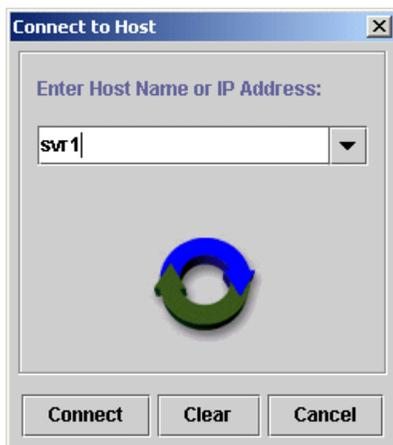

Figure B-3 FASIT MSJ - Connect to Host window
3. This is the main window in the GUI. To connect to a server agent click the **Connect** icon and the Connect to Host window is displayed (see Figure B-3):